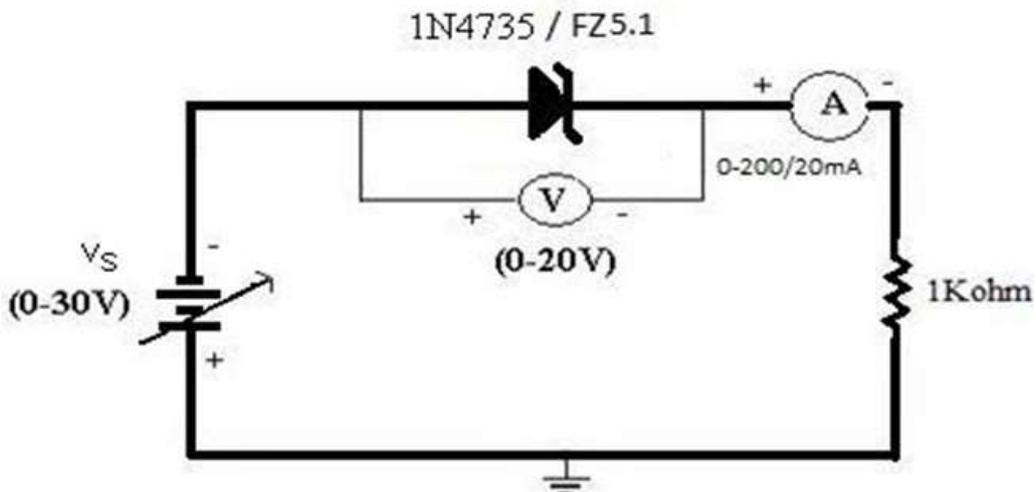

Fig. 4: Reverse Bias Condition
1. Connect the Zener diode in reverse bias as shown in the fig.4. Vary the voltage across the diode in steps of 1V from 0 V to 6 V and in steps 0.1 V till its breakdown voltage is reached. In each step note the current flowing through the diode